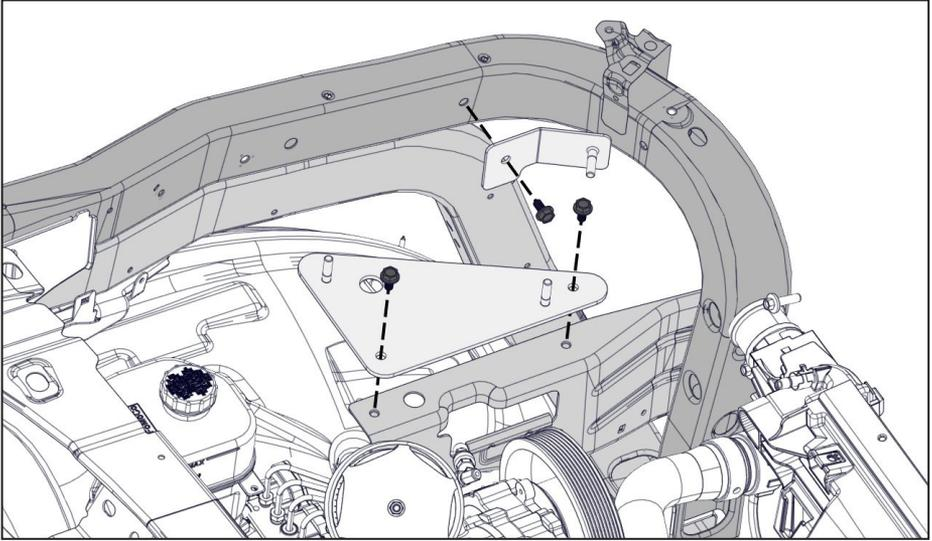

Figure 24 — Install degas bottle brackets
- Using the supplied M8 fasteners, install the degas bottle brackets in the location shown. Leave the fasteners finger tight (Figure 24).